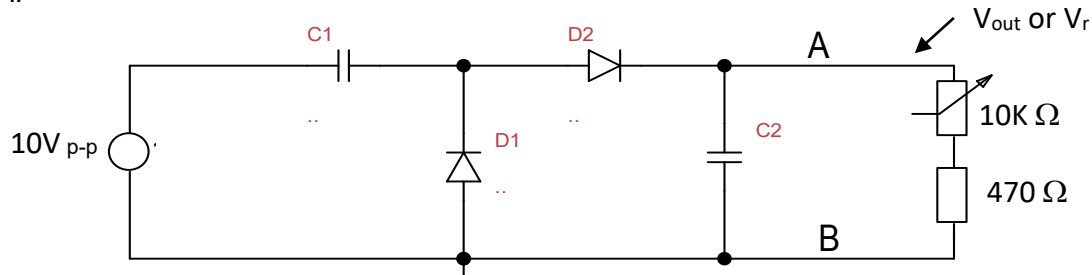

Figure 5. Voltage doubler circuit.
(a) In Figure 5, assume diodes are ideal with 0V drop while conducting. Sketch the output voltage between terminal A and B when no load is connected between terminals A and B; and 10V_{p-p}, 1KHz sine wave signal is applied.
1. Construct the circuit as shown in Figure 5. Use diode 1N914.
1. Draw circuit diagram (Figure 5). (2 pts)